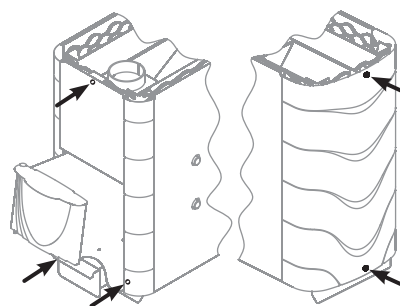

Figure 11. "Tunguska" bath stove convector disassembling
2. Remove the convector by unscrewing 5 self-drilling screws (fig. 11);